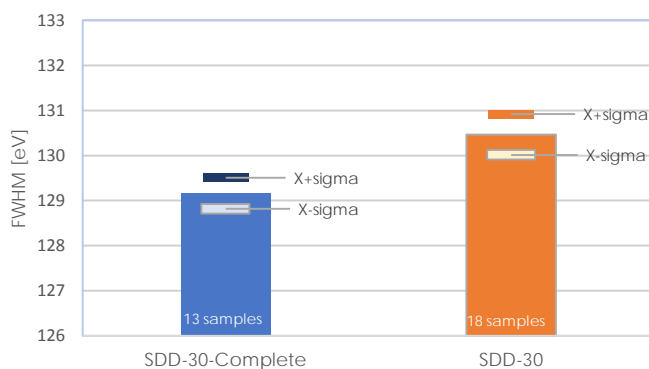

Fig. 5
**Improvement of spectroscopic performance** achieved by vacuum conditions inside the module is due to a reduced contribution of the chip surface to the overall signal capacitance. Improved spectroscopic resolution values have been measured on SDD-30-BeP Complete Modules in comparison to standard SDD modules (see fig. 5). All other qualities of the SDD module are kept unchanged.